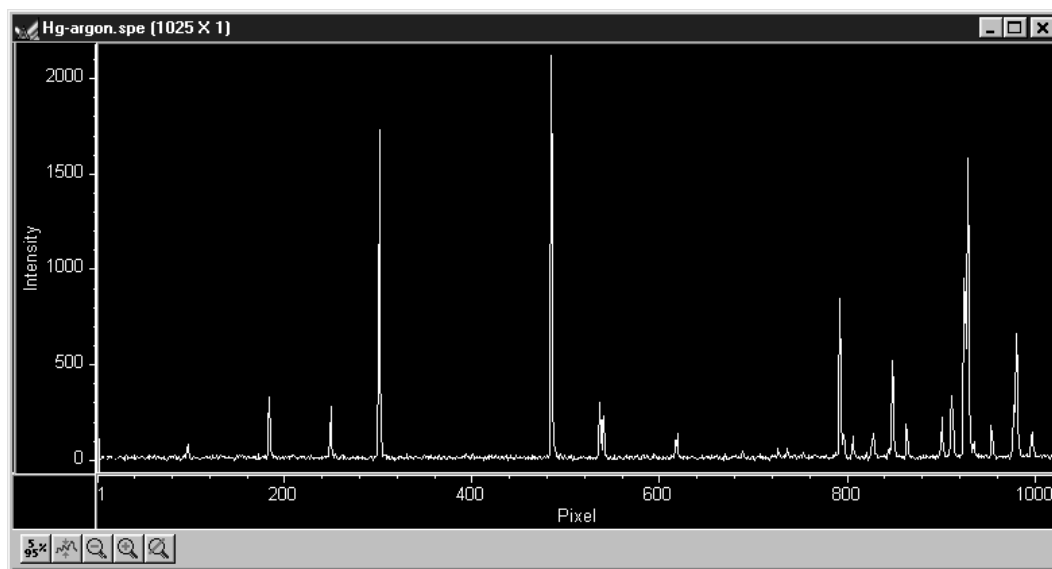

Figure 40. Typical Mercury-Argon Spectrum
The following data collection procedure works for all controllers. An underlying assumption is that a suitable light source is available. Although fluorescent room lighting may be adequate, it will probably prove more instructive to use a standard lamp, such as a mercury-argon lamp that provided the spectrum illustrated in Figure 40.
3. While observing the displayed data, adjust the system optics for the best possible spectrum (lines as high and narrow as possible). Figure 40 shows a typical mercury-argon spectrum. Your results could appear different depending on the spectrograph grating used.